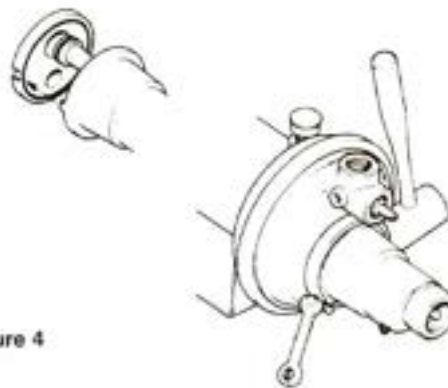

Figure 4
12. Insert venturi into upper pump port; be sure tabs and slots align (see Figure 4).
13. Install clamp and snug up; alternately tighten clamp screw and tap clamp with mallet to seat O-Ring (see Figure 4).